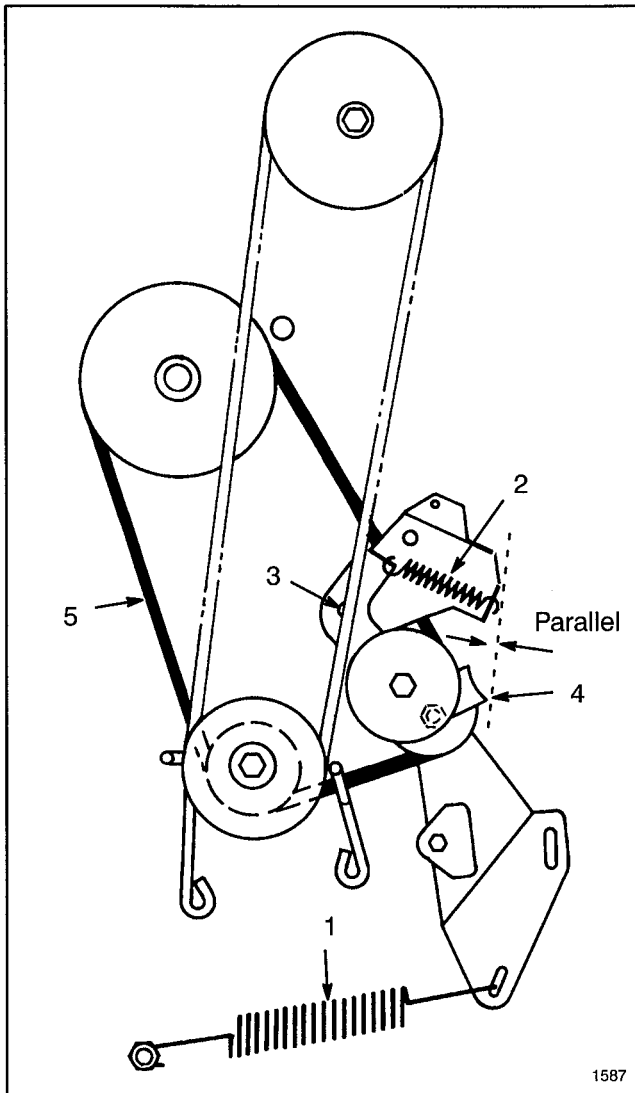

Figure 22
7. Unhook large traction spring from mounting screw (Fig. 22). Use caution when removing spring as it is heavily tensioned.
8. Unhook idler spring from idler bracket (Fig. 22).
9. Remove locknut and washer securing idler bracket to frame and remove bracket (Fig. 22).
10. Loosen the locknut on pulley until belt guide can be removed (Fig. 22). Remove belt from all pulleys.
Note: When reinstalling belt guide to idler pulley, make sure edge of belt guide is parallel to frame as shown in Figure 22.